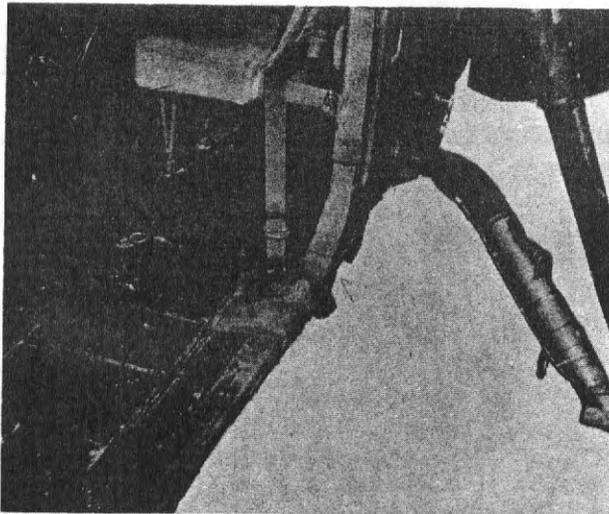

Figure 98. Jumpmaster's anchor point, CH-34.
(7) Install the jumpmaster's anchor point (fig. 98), using one A7A strap and D-ring.